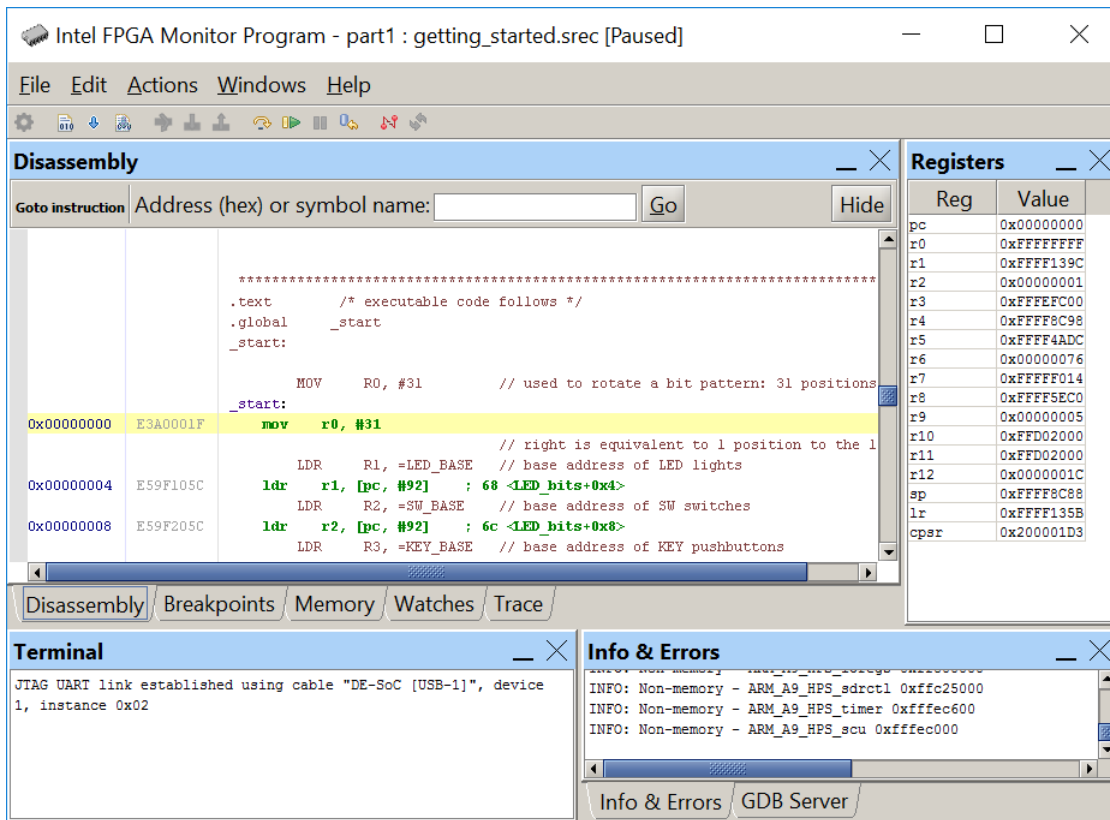

Figure 8: The monitor window showing the loaded sample program.
9. Having downloaded the computer system into the Cyclone V SoC chip on your DE1-SoC board, we can now load and run the sample program. In the main Monitor Program window, shown in Figure 8, select **Actions > Compile & Load** to assemble the program and load it into the memory on the board. Figure 8 shows the Monitor Program window after the sample program has been loaded.